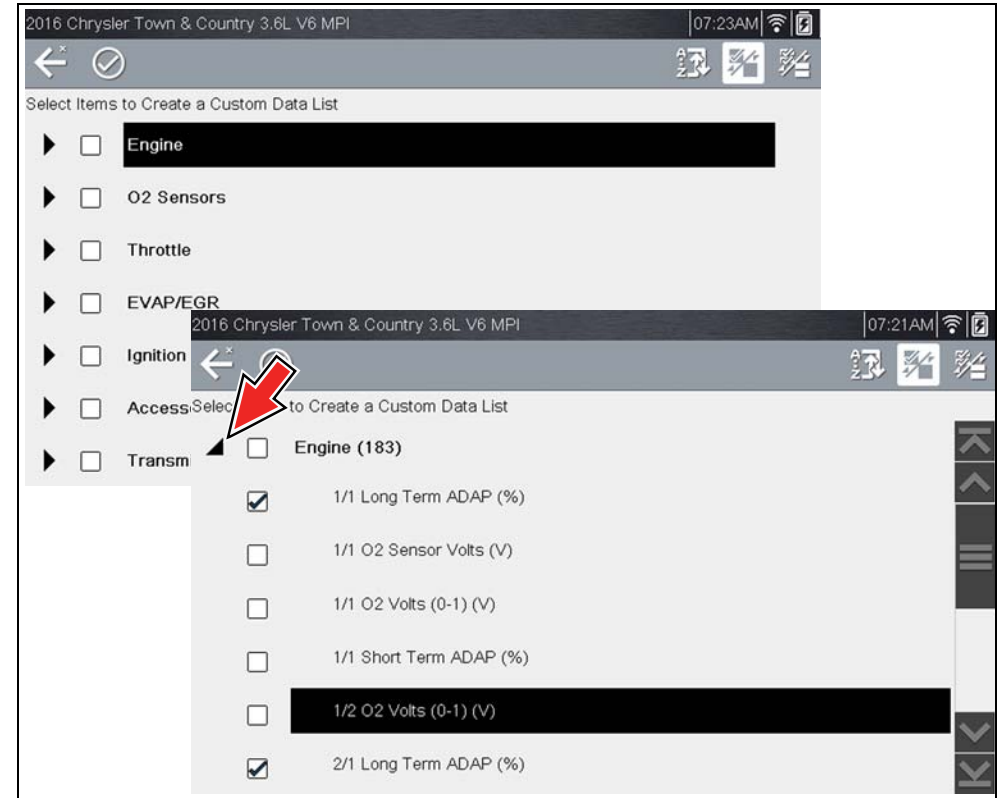

Figure 6-17
2. The data selection screen displays (Figure 6-17). Each list item is expandable, by selecting it's Expand icon (Figure 6-17). You can expand any item from the list and select which PIDs you want to include, and then collapse the list and choose another if desired. The check marks to the left of the parameter description indicate which parameters are selected for display.